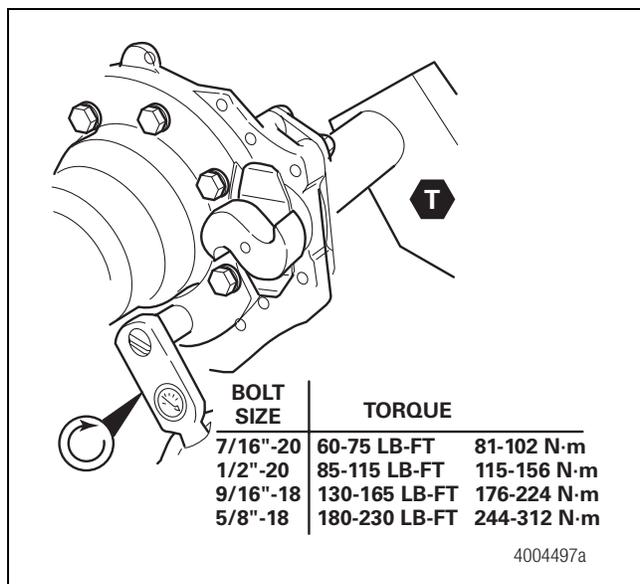

Figure 5.1
1. Tighten all the spider bolts to the specified torque. Figure 5.1.